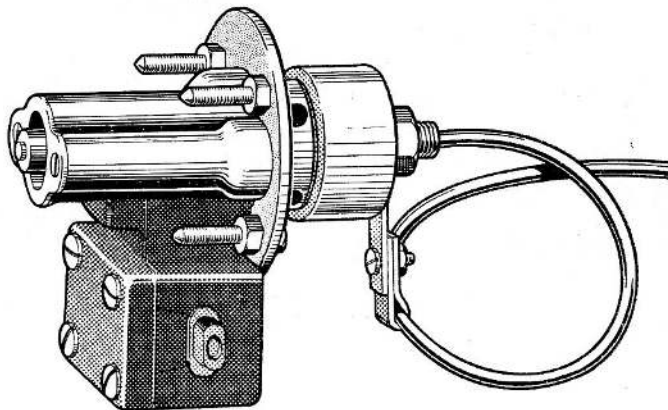

Fig. 1. Fire detector with capillary
2. The detector body (*fig. 1*) must be used in conjunction with one of the detector heads referred to in para. 1. It is designed to operate in the event of fire or rapid temperature rise. With the heads referred to, the detector will operate when the temperature exceeds 250 deg. C.